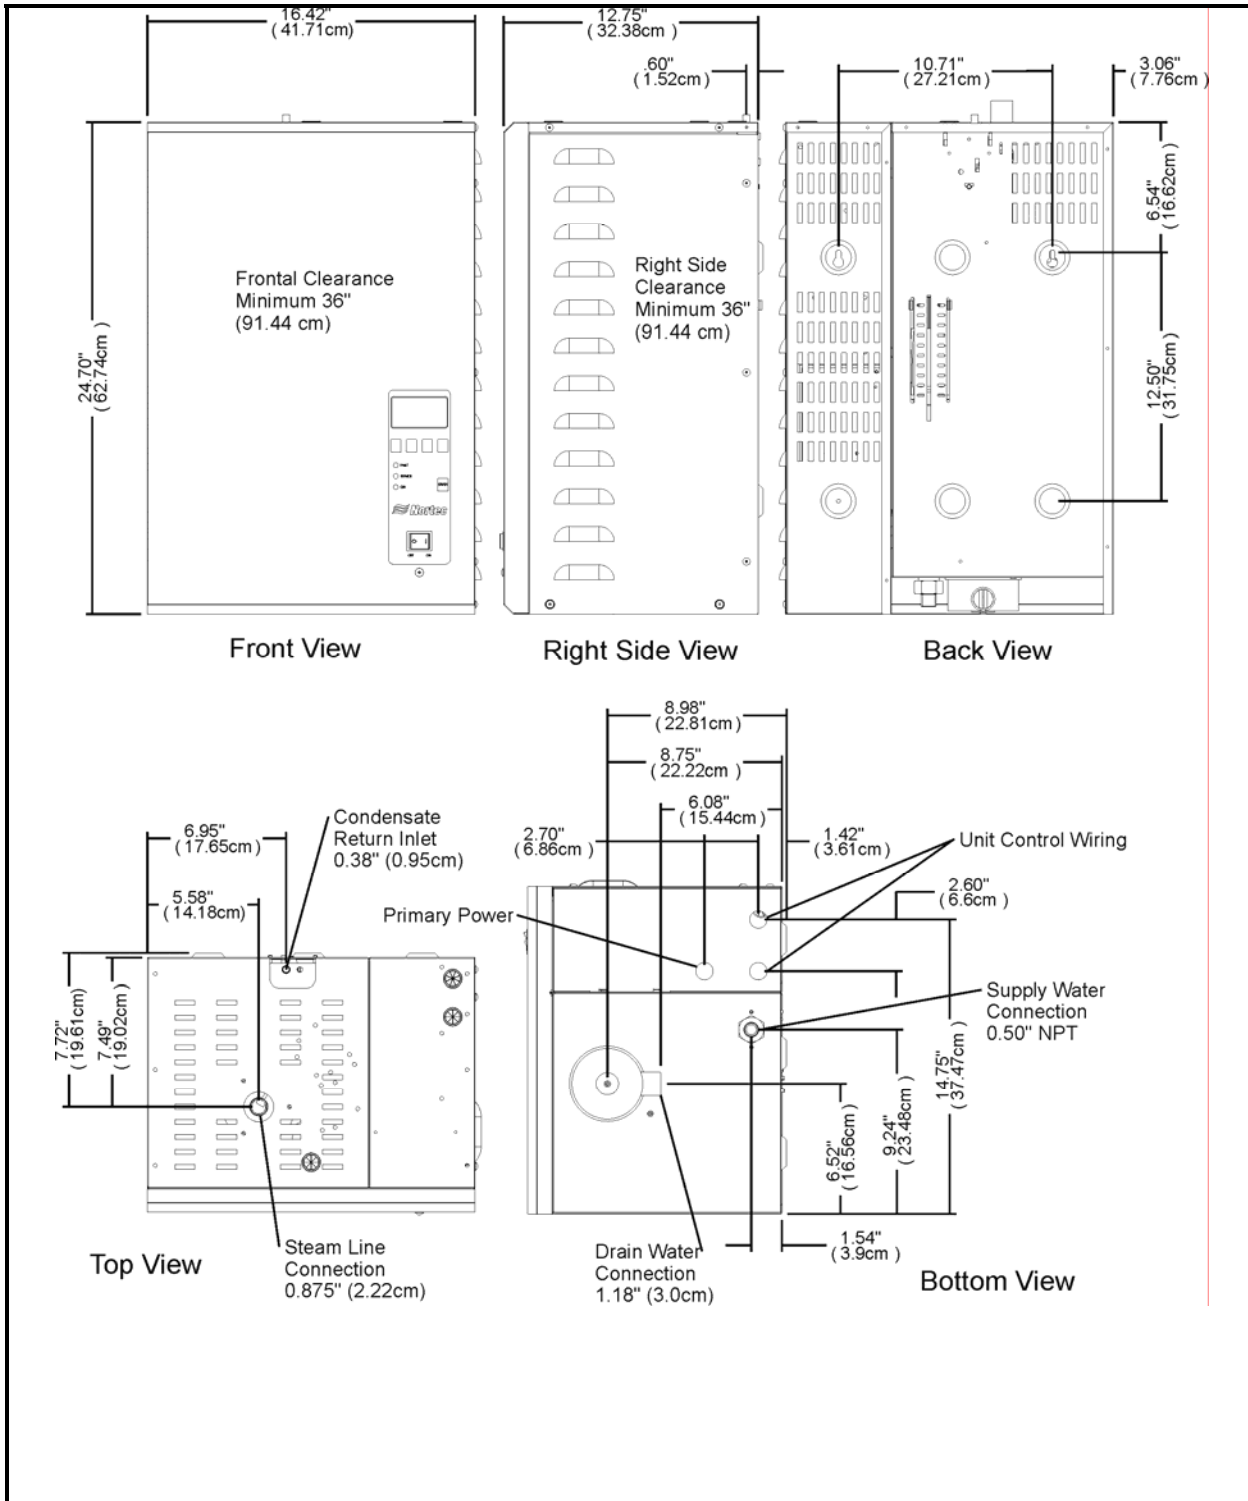
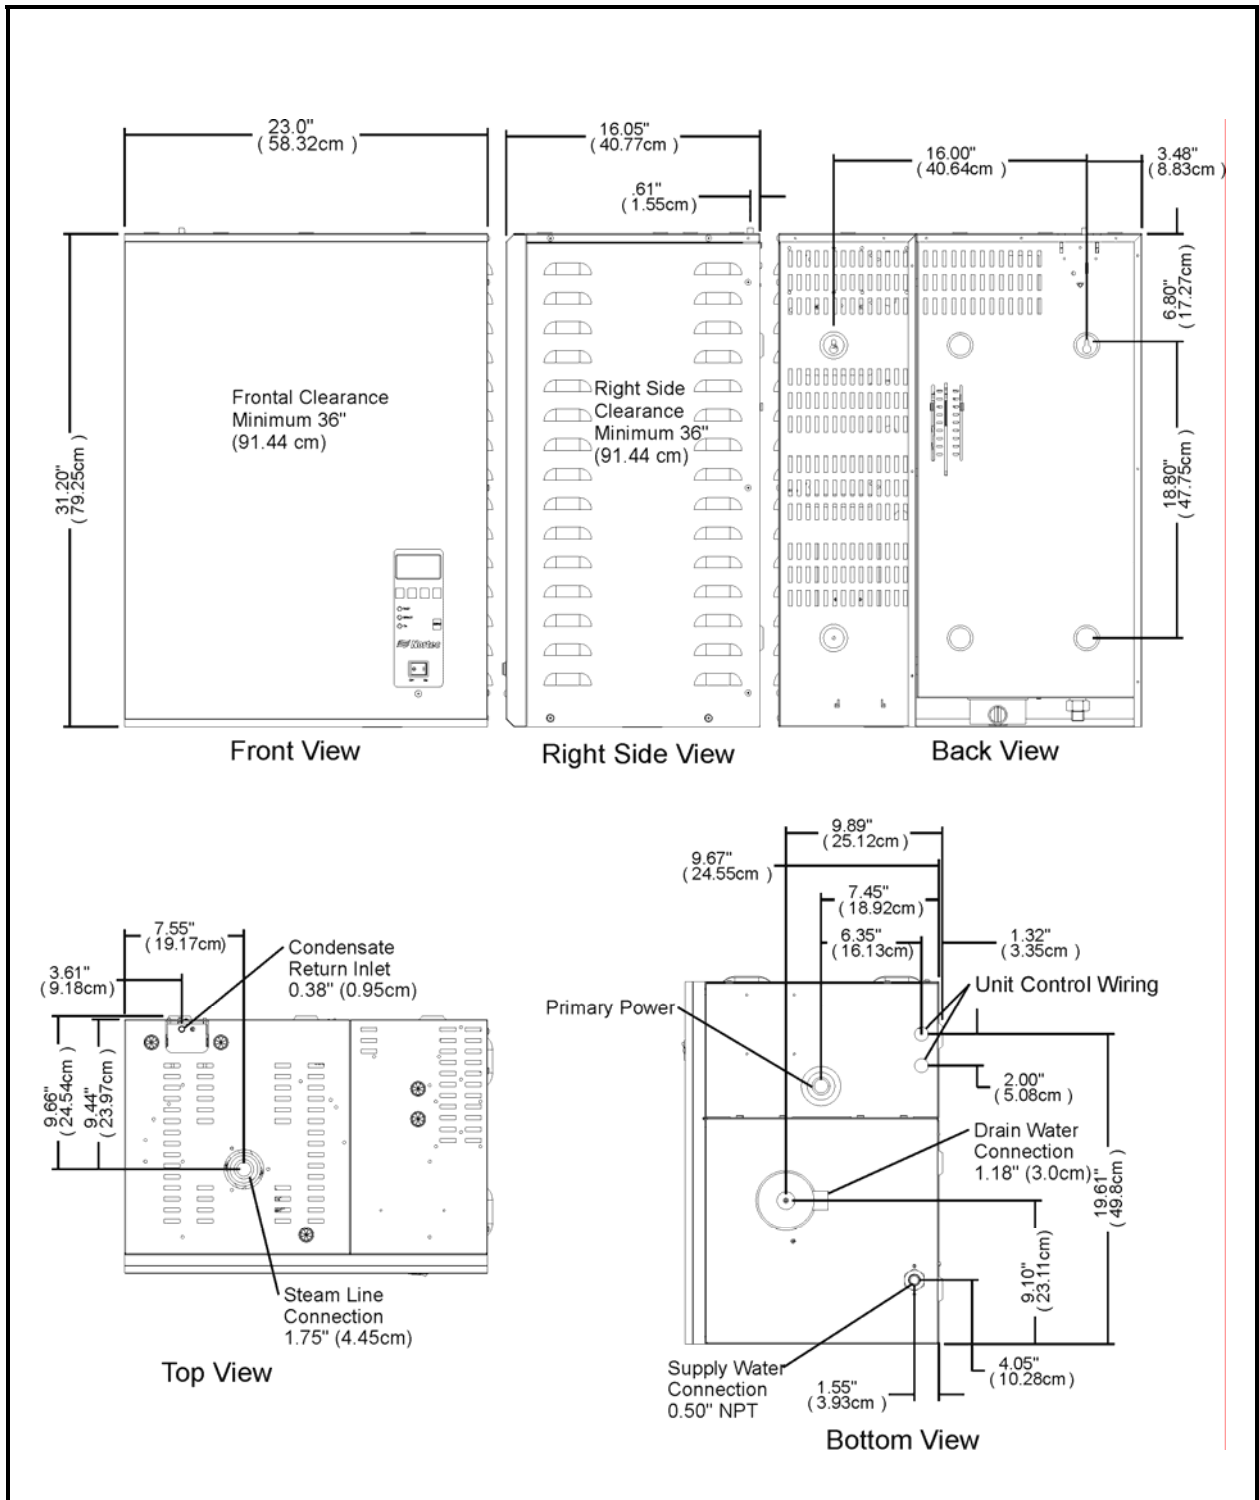

Figure 3. Physical Data – NHTC/NHPC 005-030
Figure 4. Physical Data – NHTC/NHPC 050-100
- (2) Performance data for single and double units can be found in Figure 3, Figure 4, and Figure 5.
- (3) NH Series unit options and common accessories universal are found in Tables 1 and 2.